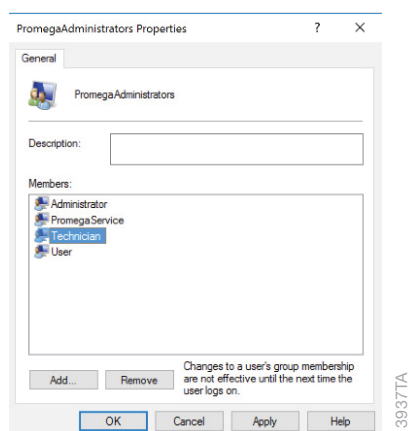

Figure 67. Removing a Windows® user account from a Promega access-level group.
7. This will open the 'PromegaAdministrators Properties' or the 'PromegaUsers Properties' screen. Under the *Members:* section of the screen, select the name of the user you wish to remove from this Promega access group (Figure 67).